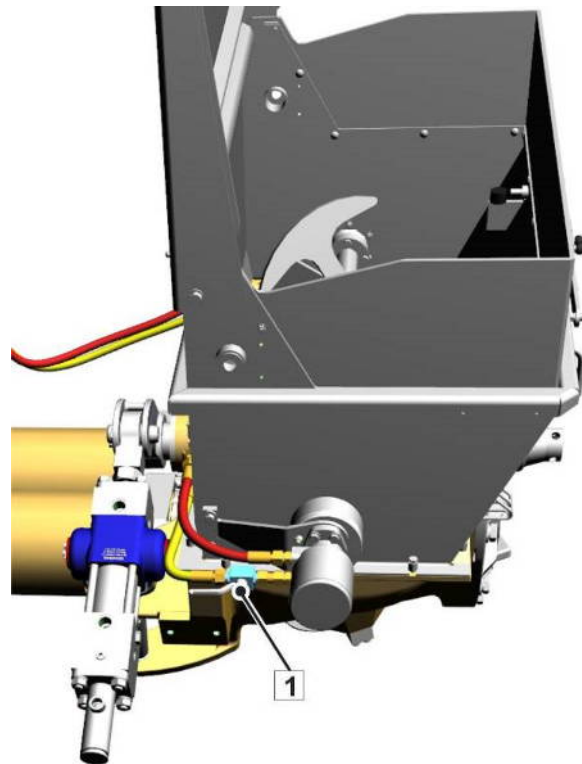

Fig.: 3
- In addition, close the ball valve 1 (Fig.: 3) on the agitator motor.